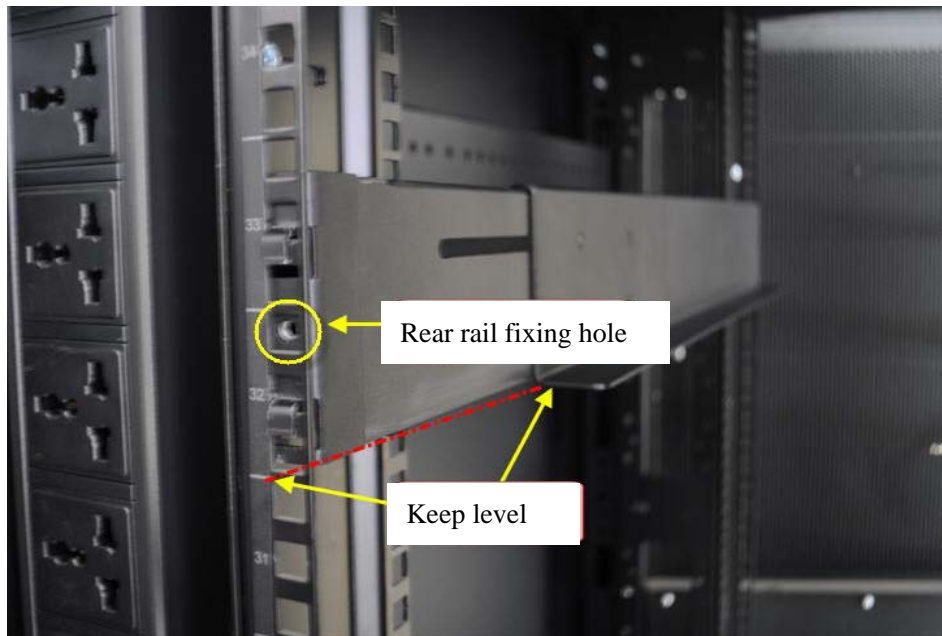

Figure 4-2
4. On rear guide rail, there're two connectors, align the lower connector with the second hole above the starting point of 32U scale on angle rail, the upper connector with the second hole above the starting point of 33U scale, insert the connector through the hole, and then press it down, to connect it to angle rail, now L-shaped part of guide rail shall be leveled with the starting point of 32U scale, and rear rail fixing holes shall display in the center of the third hole above the starting point of 32U, as shown in Figure 4-2.